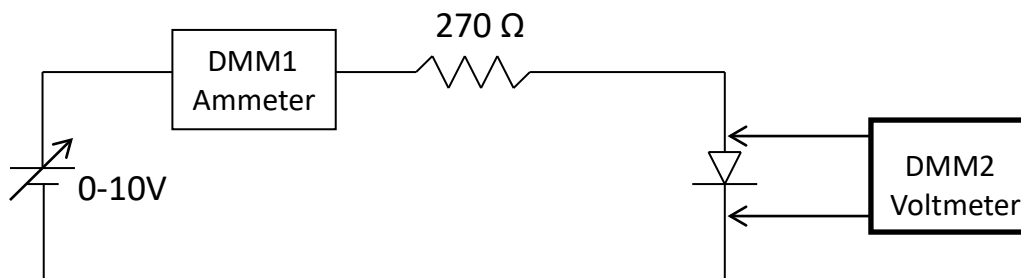

Figure 1. Diode voltage and current measurement
1. Diagram of circuit (Fig. 1) with measured value for R. (2 pts)